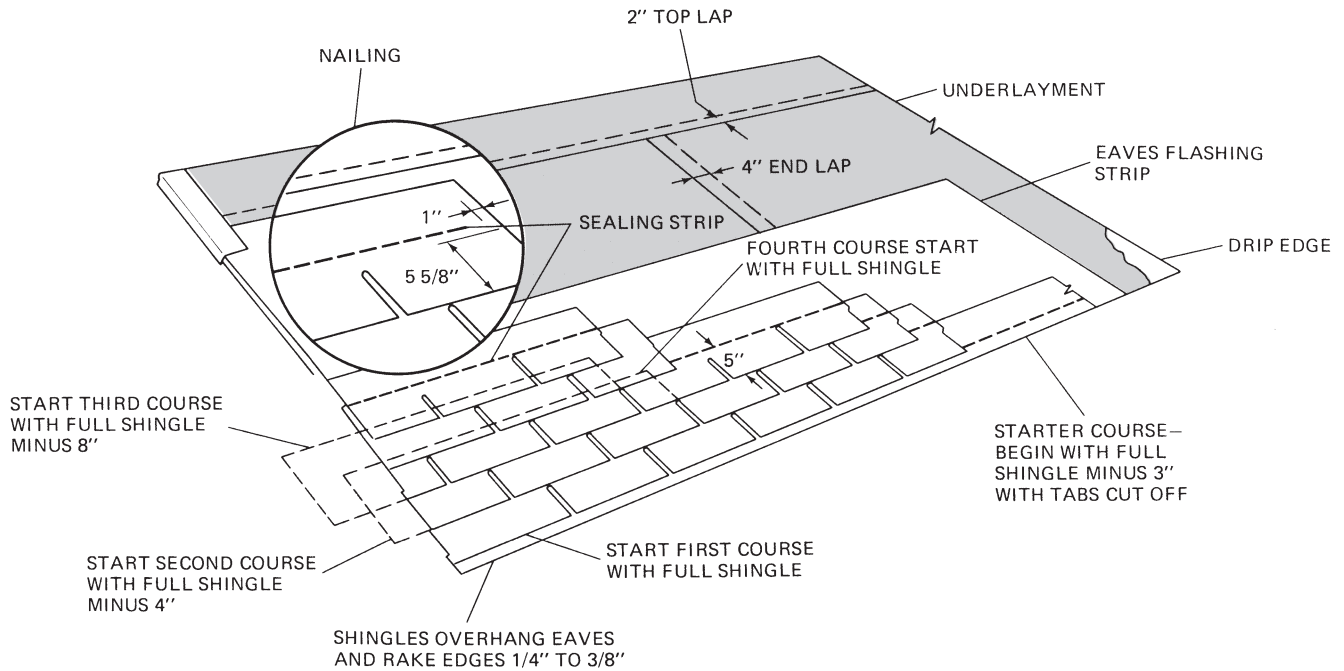

Fig. 8-58 Applying three-tab square-butts strips so that cutouts break the joints at thirds. (Bird and Son.)
1. Cutouts break at joints on the thirds (Fig. 8-58).